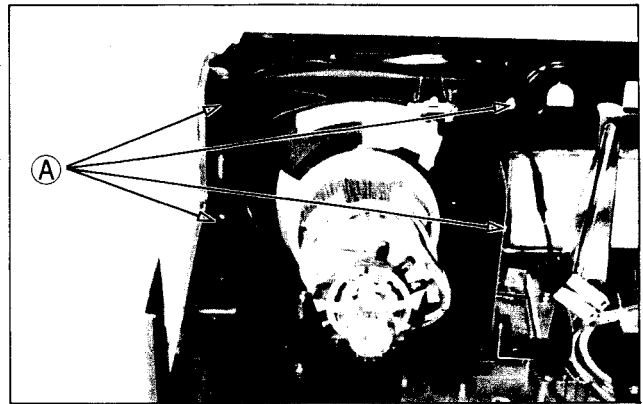

Fig. 9
By removing the color TV P.C. board and unfastening the four screws marked (A) in Fig. 9, the picture tube can be removed from the unit.